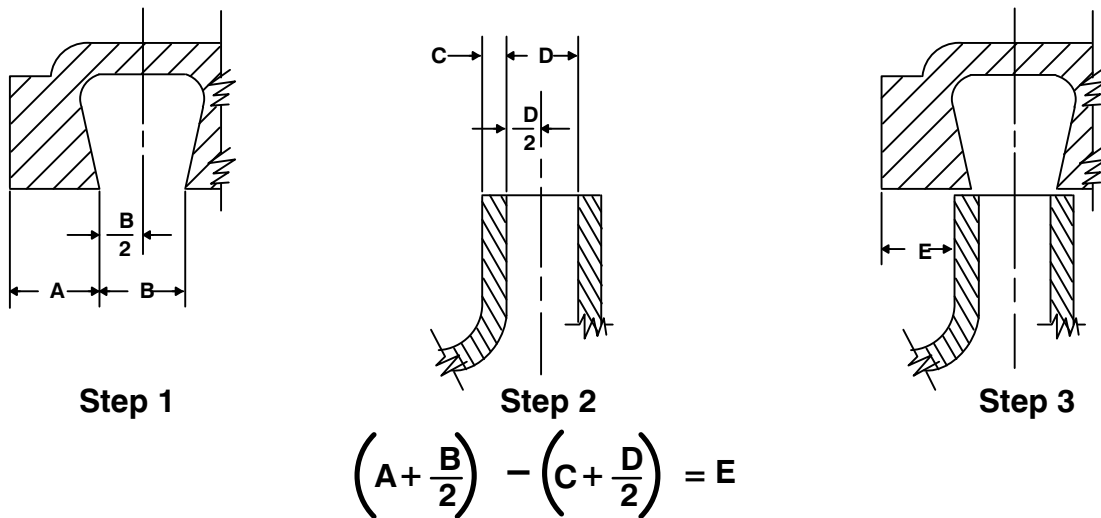

Figure 3. Centering Impeller Within Vane Plate
To verify the impeller positioning, measure the vane plate and impeller as shown in Figure 3. Use these measurements to calculate the required impeller location (dimension E). Add or remove impeller adjusting shims (14) until dimension E is obtained.